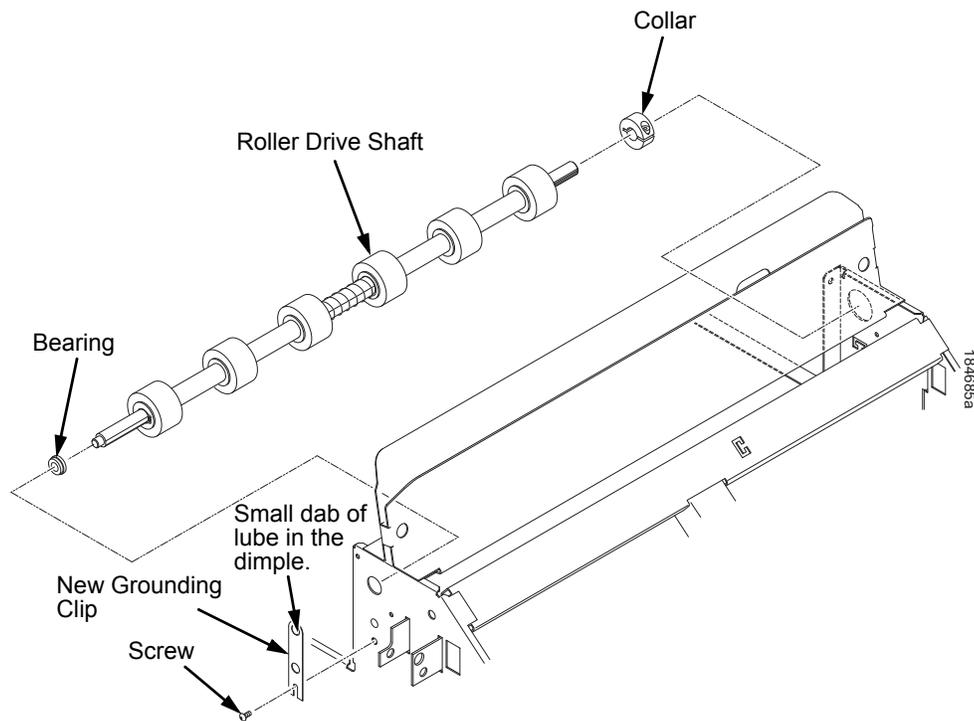

Figure 35. Roller Drive Shaft
9. Remove the roller drive shaft, taking care to retain the bearing at the left end of the shaft and the collar at the right end of the shaft. (Figure 35.)
10. Remove the bearing and collar from the old roller drive shaft and retain these items for installation on the new roller drive shaft. (Figure 35.)
11. Using an M-2 Allen wrench, remove the screw securing the grounding clip to the left side of the elevator. Discard the old grounding clip, but retain the screw so you can install a new grounding clip when you install the new roller driver shaft. (Figure 35.)
14. Apply a small dab of bearing lubricant to the dimple in the new grounding clip. Make sure this is the only area containing lubricant. (Figure 35.)